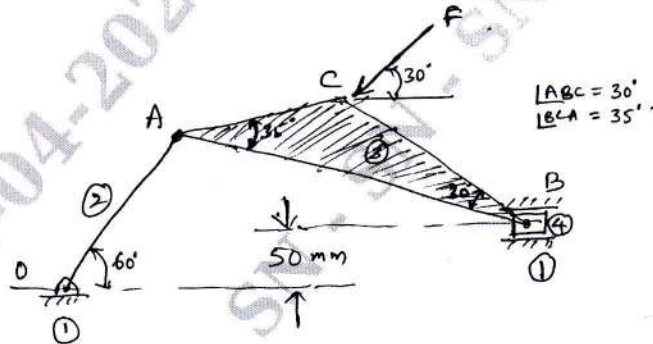

Fig. Q4 (a)
- 4 a. For the mechanism shown in Fig. Q4 (a), find the required input torque for static equilibrium. The lengths OA and AB are 250 mm and 650 mm respectively. $F = 500$ N.